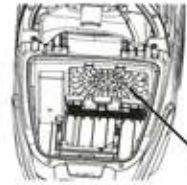

Fig. 20/1
- **Motor protection filter (Fig. 20/1)** Prevents larger particles from destroying the motor if the dust filter bag is defective. When to replace: Every time you open a new box of dust filter bags, as they always contain a new motor protection filter, but at least every 6 months.
Hygienic exhaust filter (Fig. 20/2) Removes microscopic particles from the exhaust air stream. When to replace: Every 6 months.